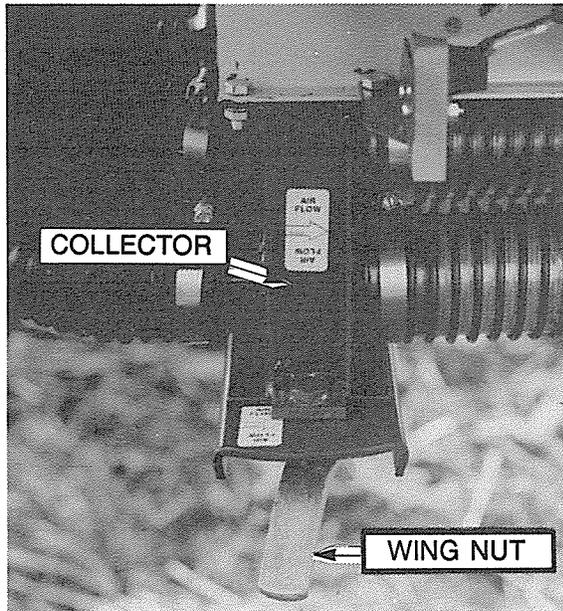

Figure 28 - Collector Bottom
- (b) Remove the Wing Nuts. (See Fig. 28).
- (f) Turn the crank until material begins to fall through the collector body. (See Fig. 28).
NOTE: Arrow directions on the collector **bottom** must point in the same direction as the ones on the collector **body**. (See Fig. 28). On newer models, the collector bottom can only be assembled one way.